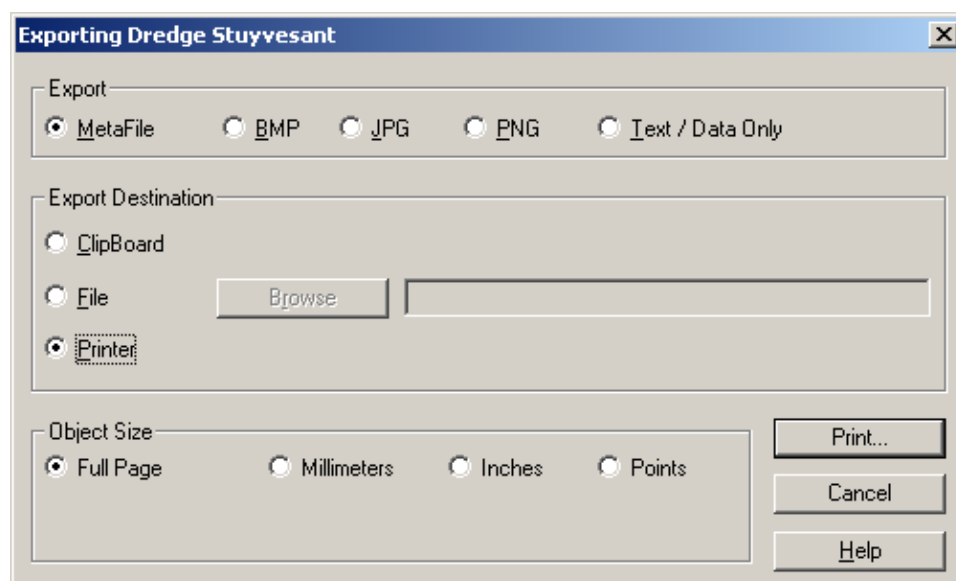
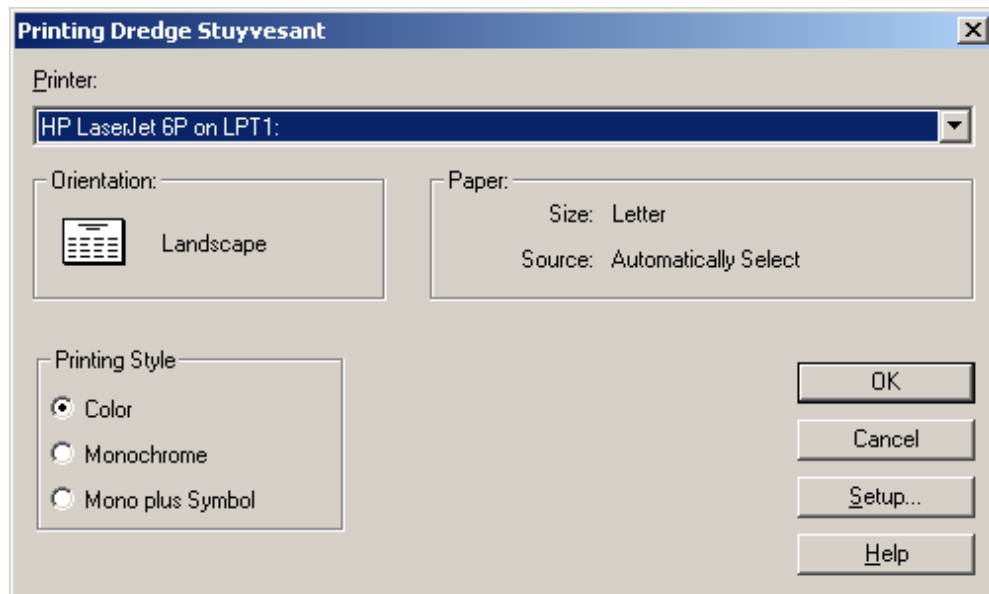

Figure 2.17 Exporting to printer.
Figure2.18 Printer menu
1. Click Print as shown in Figure 2.17. The print window will then appear as in Figure 2.18.